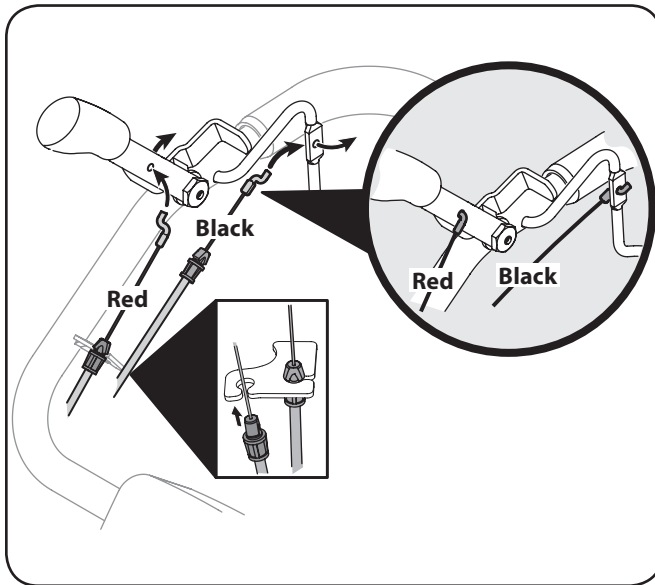

Figure 3-2
1. Route the two cables along the handle assembly on the right-hand side. See Fig. 3-2.
2. Connect the reverse cable (Red) to the reverse cable control by feeding the z-hook through the hole on the reverse cable control from the inside towards the outside. Refer to Fig. 3-2.
3. Connect the forward drive cable (Black) to the clutch bail by feeding the z-hook through the hole on the clutch bail from the outside towards the inside. See Fig. 3-2.
4. Snap the cable housing clips into the handle assembly cable mount as seen here. The red clip (reverse cable) fits into the top position on the handle assembly, while the black clip (forward/clutch cable) feeds into the lower position on the handle assembly. See Fig. 3-2.